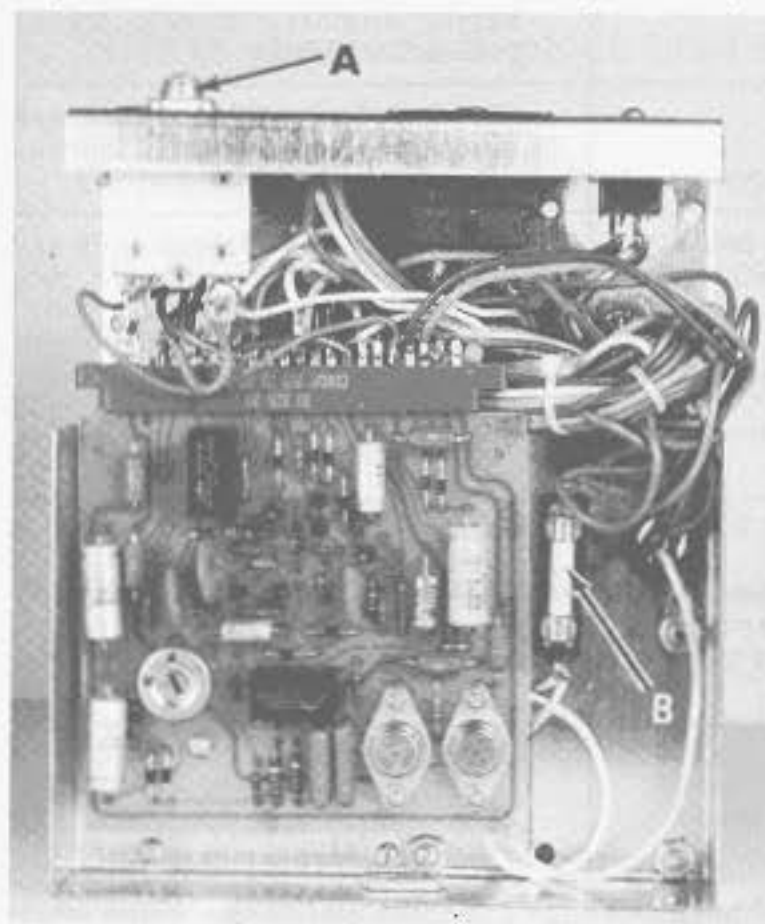
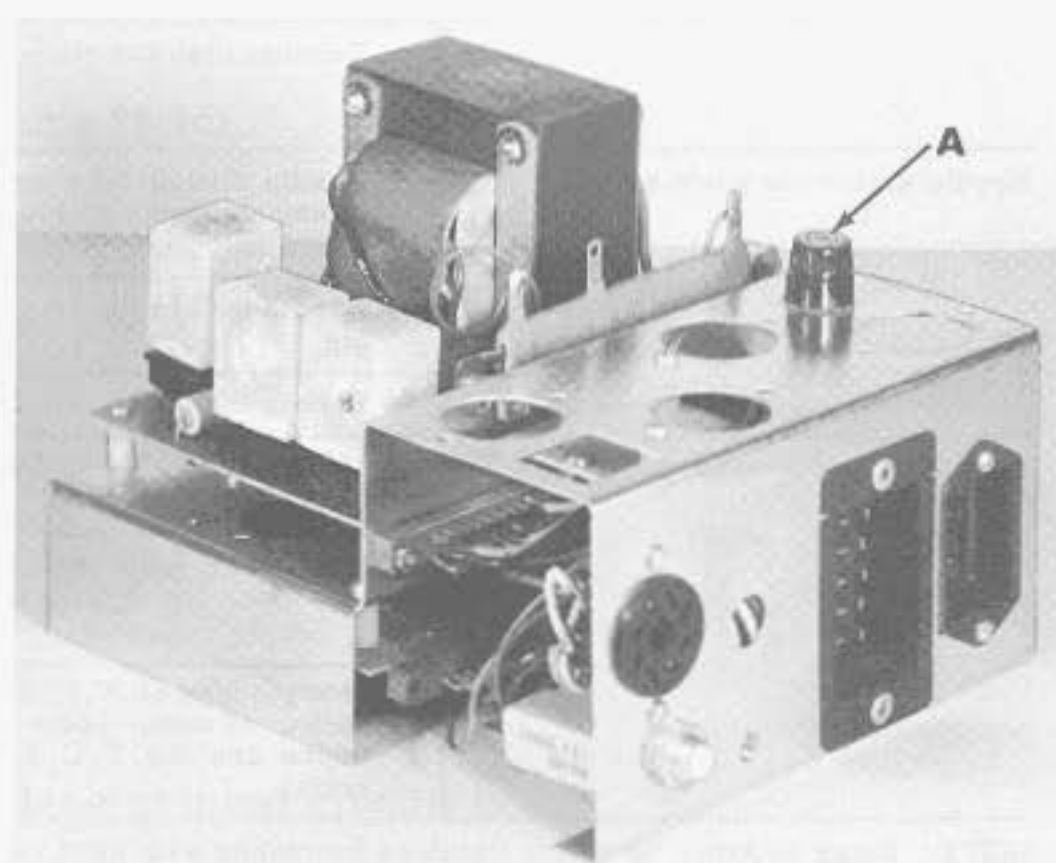

Fig. 37
Fig. 38
10. Assemble relays as shown in Fig. 38.
The power pack incorporates a safety feature consisting of two (2) fuses and a circuit breaker. The 1 1/2 AMP circuit breaker (A, Fig. 37) located in the front panel fuses the auxiliary motor as well as the positioner circuit components. The 1 1/4 AMP slow blow fuse (A, Fig. 38) located on top of the chassis fuses the AC input for the primary winding of the transformer. The 5 AMP straight blow fuse (B, Fig. 37) located under the chassis, for the thread wiper solenoid (30 VDC), cutter solenoid and relay coil control circuit (24 VDC).